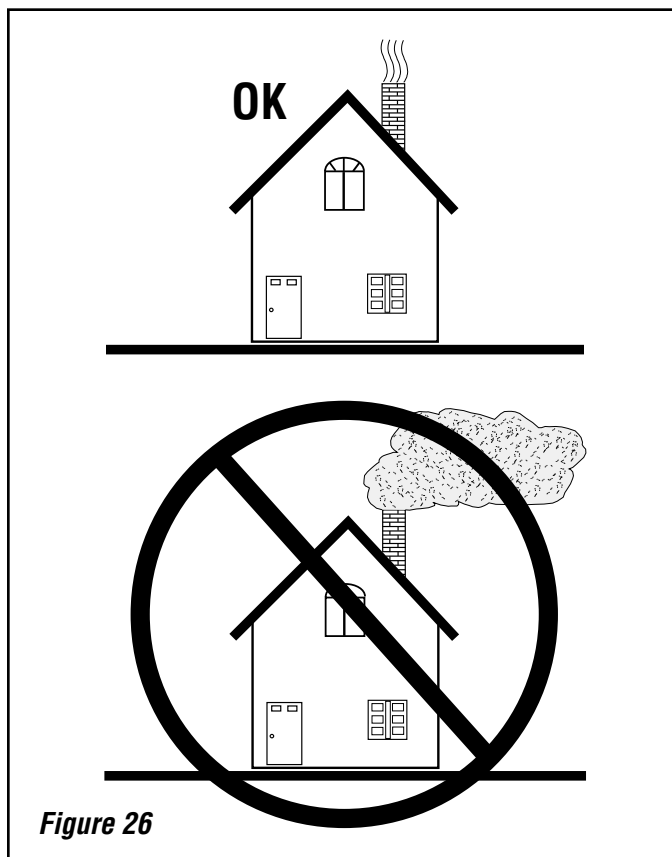

Figure 26
6. For best results, use smaller pieces of wood to get the stove temperature very high before loading larger wood for sustained burns. If necessary, crack the door to allow ignition of the fuel charge. Now you can add larger pieces of wood and after several minutes of high burn, set the left control for the desired heat output. Check the exhaust in about 15 to 20 minutes (see **Figure 26**). Large amounts of smoke indicate an improper burn setting (either too high or too low). Adjust and recheck in 5 to 10 minutes.